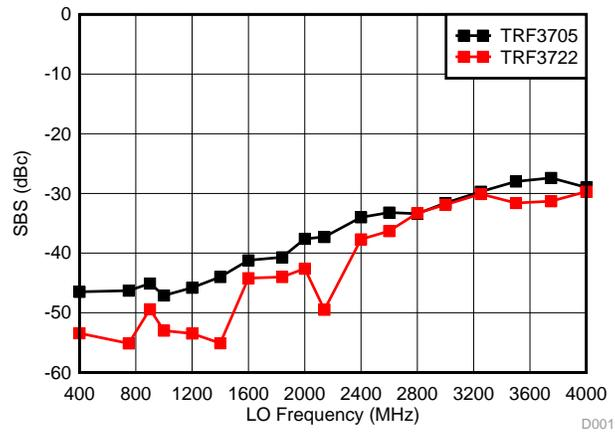
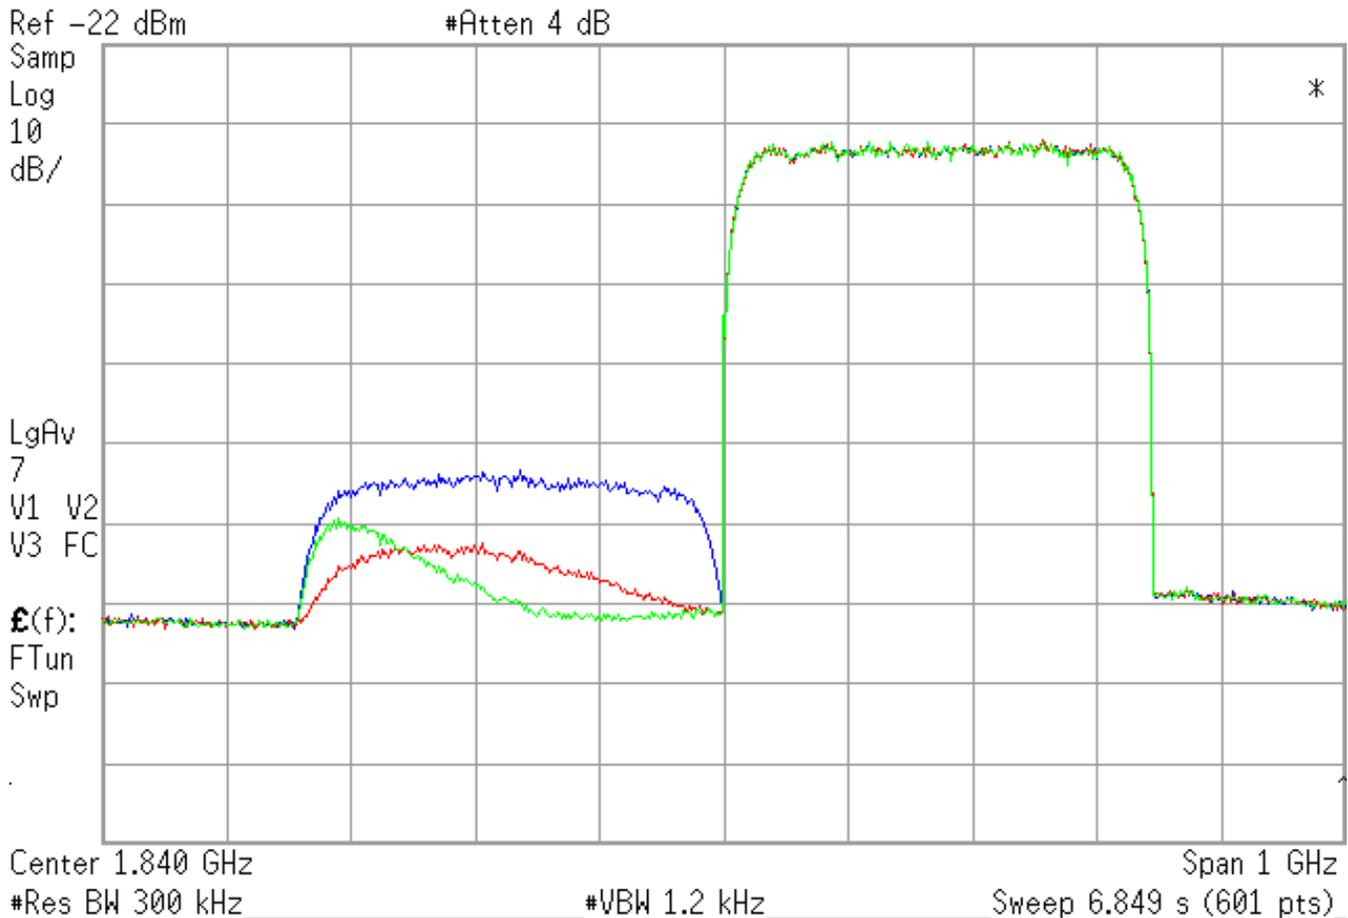

Figure 8. Unadjusted SBS versus LO Frequency
Figure 9. Adjusted SBS
One key concern for complex transmitters is the SBS performance. For an intermediate frequency (IF) transmitter (for example, DAC output center frequency $\neq 0$ Hz) the SBS performance will have a strong impact on the RF filtering requirements. For a zero-IF (ZIF) transmitter (for example, DAC output center frequency = 0 Hz) the SBS performance will have a large impact on the error vector magnitude performance. The DAC38J84 includes some digital features to correct the sideband at the modulator output. These features include the quadrature modulation correction (QMC) block and a correction block for the digital group delay correction block. The combination of both blocks can be used to correct the SBS over a large bandwidth. In Figure 9, a 340-MHz wide signal is output from the DAC and mixed up to 1.84 GHz using the TRF3722. The yellow signal is the unadjusted SBS, the blue signal is the performance with just the QMC block on, and the red signal is with both QMC and group delay correction enabled. The unadjusted SBS performance is approximately 40 dBc down and matches the performance shown in Figure 8. The QMC was used to correct for the phase and gain mismatch between the complex signals. The group delay correction was then used to correct the remaining higher frequency sideband. For an IF transmitter, the filtering requirements are relaxed by eliminating the need to filter the sideband close to the LO frequency, where the correction improved the performance by approximately 15 dB. For ZIF transmitters, the adjusted sideband shows 10 dB of improvement over 500 MHz of bandwidth.